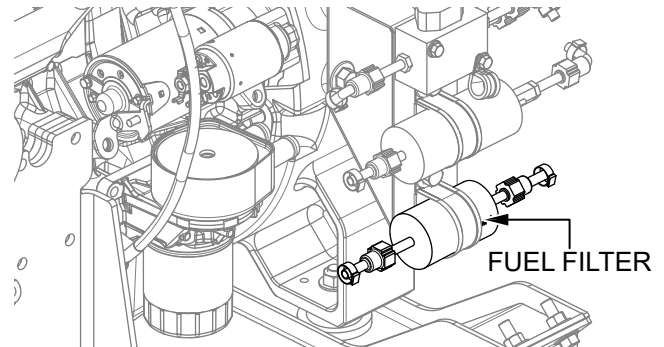

Figure 62. Fuel Filter
1. Replace the engine fuel filter (Figure 62) every 200 hours of operation.